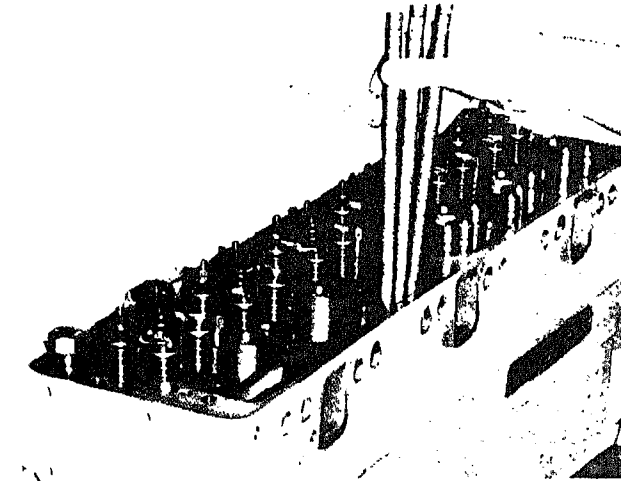

Fig. 0-34. Removing push tubes
1. Lift all push tubes from tappet sockets, Fig. 0-34.